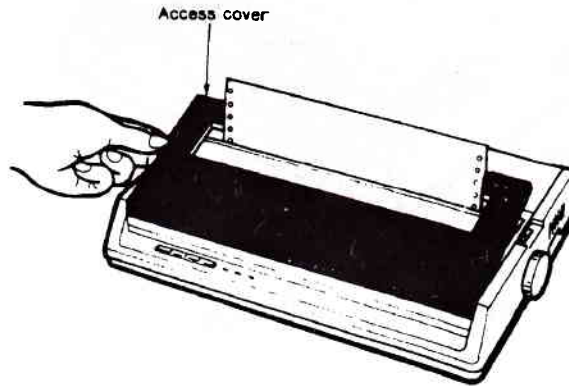

Figure 26, Access cover
3. Remove the access cover by lifting it off. (see figure 26).
- b. Lower the access cover onto the printer. (see figure 26).
2. Remove the printer access cover. (see figure 26).